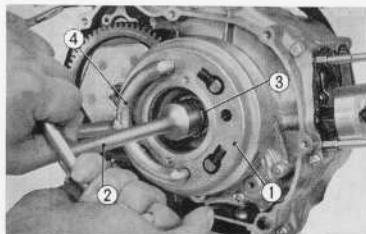

Fig. 3.66 Removing the clutch assembly
① Spring tester ② Spring
4. Unlock the 16 mm lock washer and unscrew the 16 mm lock nut ③, the clutch assembly ① can be removed as a unit. (Fig. 3.66)